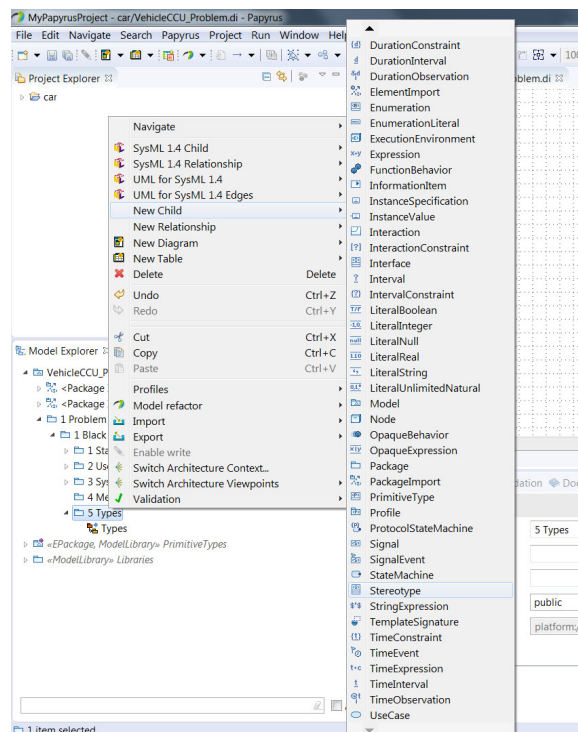
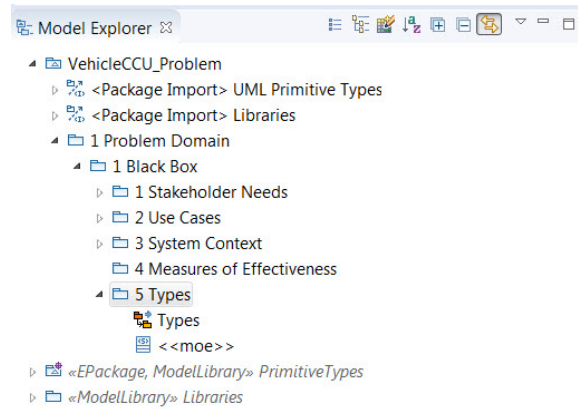

Figure 73: Creating the MoE stereotype.
Figure 74: Stereotype Created.
- Now we will set up our MoE stereotype. Right-click on the 5 *Types* package and select **New Child** and then **Stereotype** (figure 73) and name the stereotype «moe» (figure 74).